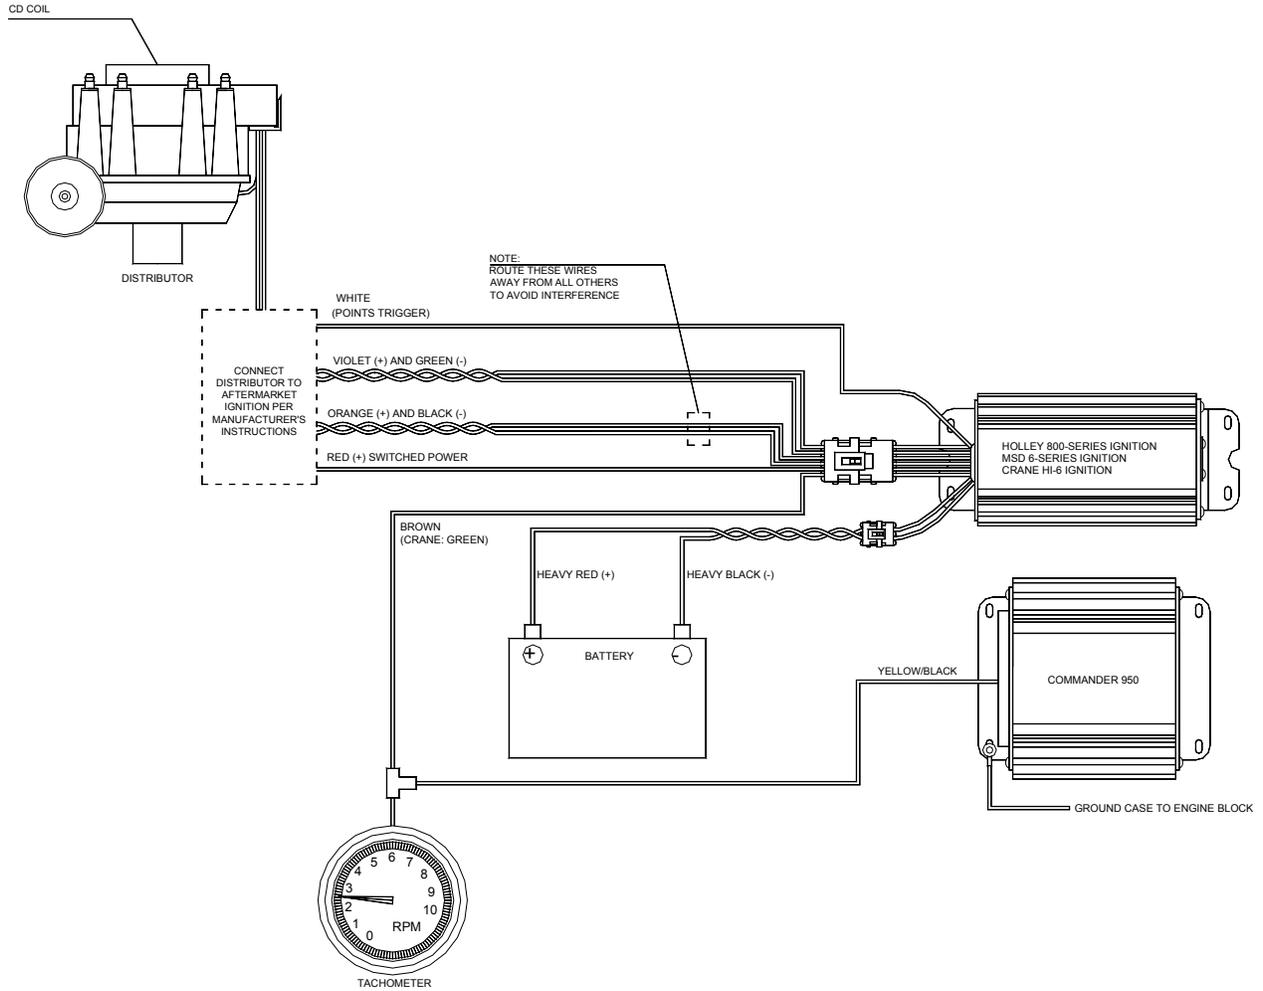

Figure 77
- Figure 77:** Commander 950 PRO to Aftermarket Ignition Using GM HEI with Mechanical Advance 4-Pin Module Distributor.